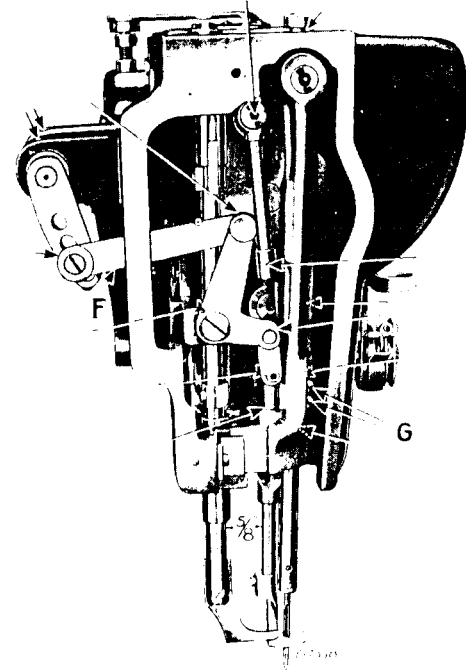

Fig. 4. End View of Machine Showing Oiling Points Also Adjustments on the Machine
In case the needle bar is not correctly set, loosen the needle bar connecting stud pinch screws at (G, Fig. 4) and place the needle bar in correct position as directed above, then retighten the screws (G).
The distance between the vibrating presser bar and lifting presser bar, after adjusting the feed mechanism so that there is no feed movement of the needle bar, should be $\frac{3}{8}$ inch as shown in Fig. 4.
The height of lift of the pressers is adjustable by moving the link (f, Fig. 4) to any of the four holes in the rock shaft crank. The maximum lift is secured with the link in the bottom hole. The amount of lift should be regulated according to the thickness of the material being sewn. The feet should lift just high enough to clear the material.